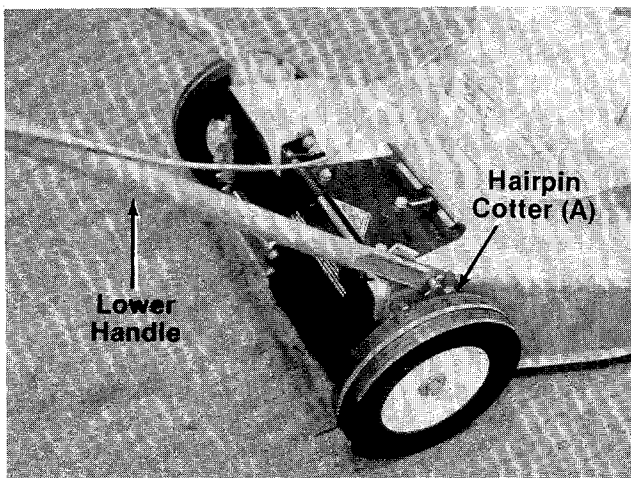

FIGURE 3.
- I (7) Truss Head Bolts 3/8" Long
- J (7) External Lock Washers
- ← K (7) Hex Nuts #10-24 Thread
- L (2) Cotter Pins
- M (2) Tubing Connectors
Secure with hairpin cotters (A) in inner hole on weld pin. See figure 3.